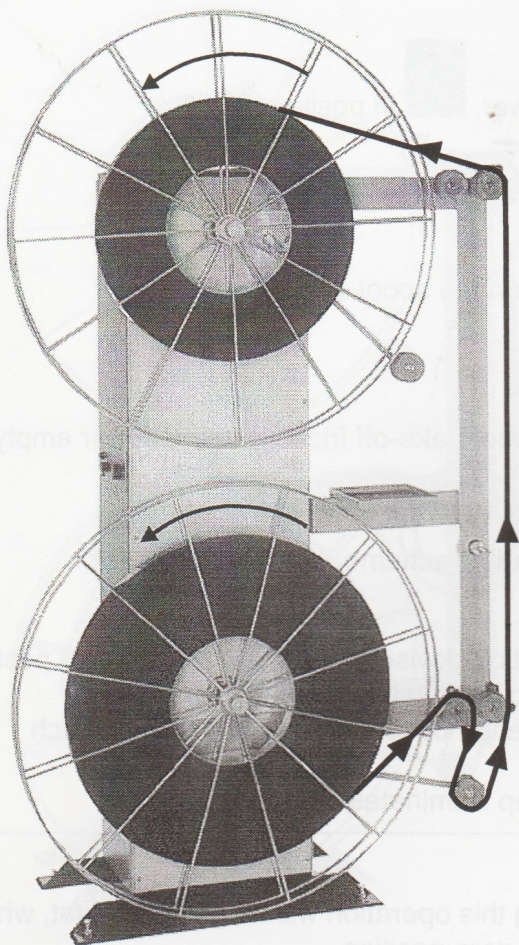

Figure 4-3
5. Thread film, as you can see in threading scheme, figure 4-3 and 4-4.